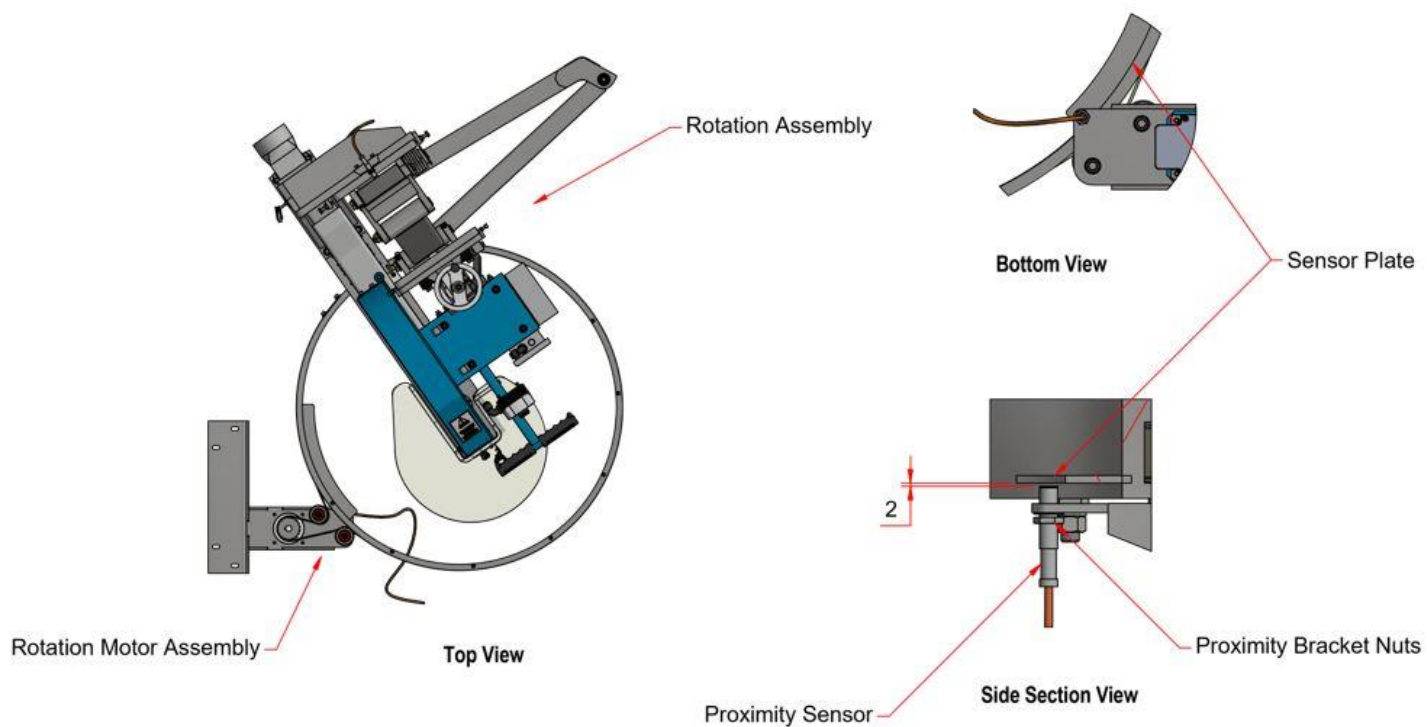

Figure 21, Rotation Ring proximity sensor configuration
- Push the Rotation assembly over until the sensor plate is above the proximity sensor on the rotation motor assembly. See Figure 21.
- Ensure that the edge of the sensor plate is directly above the proximity sensor, as shown in Figure 21; this should be within the home position. The home position for Left-hand saws is any angle above 100°, and the home position for Right-hand saws is any angle less than 80°.